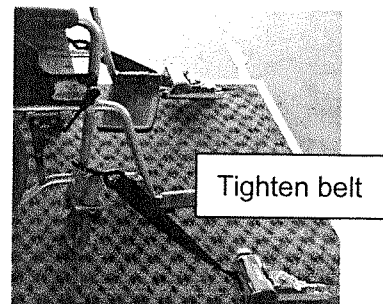

Figure 6.2.2
- Pull out the belt until the hook can hitch wheelchair, and then release the red button as figure 6.2.2;